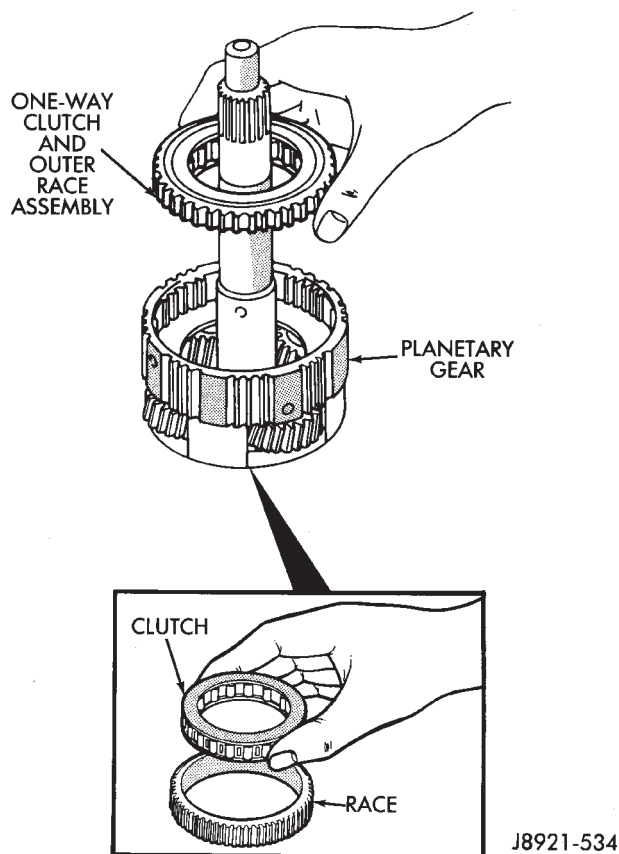

Fig. 14 Removing One-Way Clutch
(15) Remove one-way clutch and outer race as assembly. Then separate race from clutch (Fig. 14).